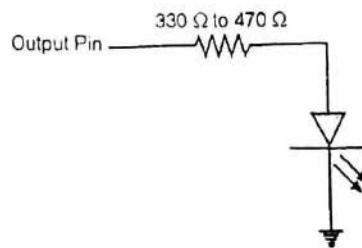

Fig. 7.4.3 : PIC18 output port pin driving an LED
- A resistor of 330Ω to 470Ω is required to limit the current flow. A typical circuit connection is shown in Fig. 7.4.3.